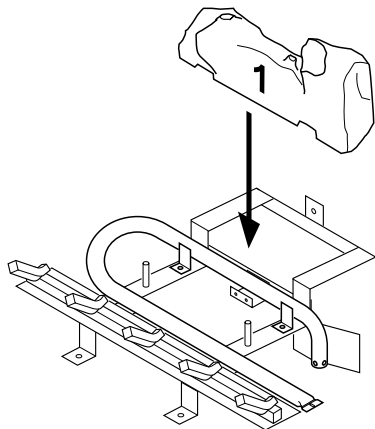

Figure 43 - Installing Log No. 1
It is very important to install these logs exactly as instructed in Figures 43 through 47. Do not modify logs. Only use logs supplied with freestanding burner system. Do not use if any log(s) are broken (see *Replacement Parts*, page 26).
2. Place log #1 (back log) on top of grate. Make sure the notches in the bottom of the log fit over the grate (see Figure 43).